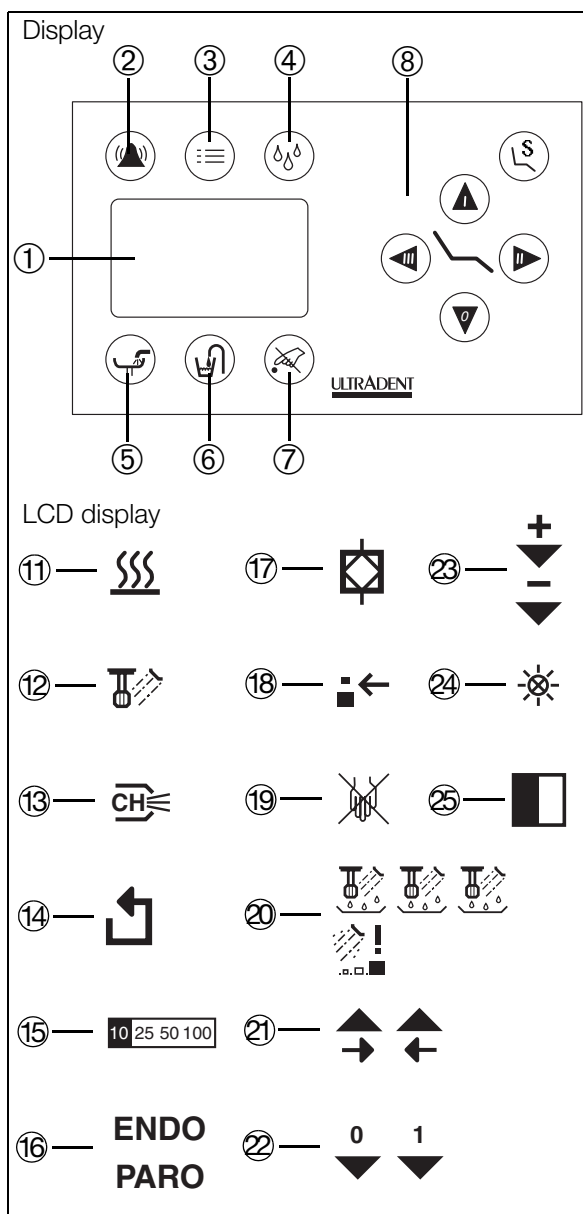

Fig. 16
The range across which adjustment is possible is displayed on the control panel ⑮ (Fig. 16) as a percentage.
The display for the chip blower lights up fully when it is switched on ⑬ (Fig. 16).
Hot/cold selection for six-way syringes for which the selector switch is not integrated into the handpiece. The display for hot/cold mode ⑪ (Fig. 16) is located on the control panel.
In anticlockwise mode, the display lights up ⑭ (Fig. 16), also when switching from the tartar remover function to the ENDO/PARO function.
The display for tartar remover/ENDO/PARO mode is located on the control panel ⑯ (Fig. 16).
The speed range display ⑮ (Fig. 16) is located on the control panel.
In spray mode, the display lights up ⑫ (Fig. 16)